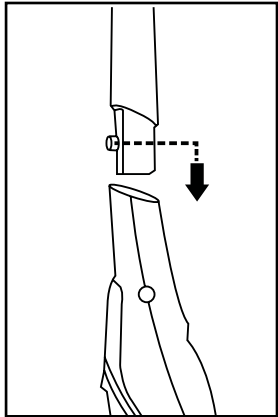

Fig. 1
1. Press handle assembly button while inserting the handle into the handle opening on the main body making sure not to pinch internal cord. Handle assembly button will snap into place when handle is fully connected. (Fig. 1)